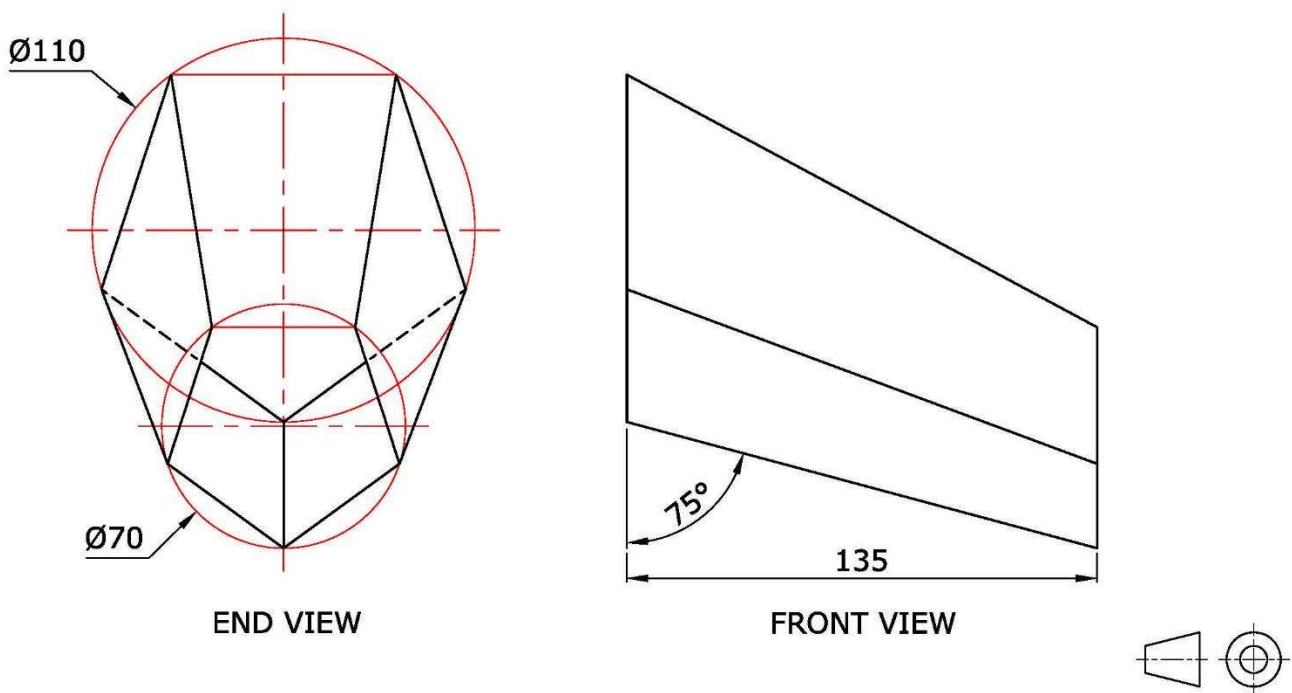

Figure 4b
- a) Construct, full size, the wall mounted face as a regular pentagon inscribed in the 110 mm diameter circle shown in Figure 4b and complete the end and front views of the truncated oblique pyramid. (4)
- b) Using an appropriate method, determine the necessary true lengths of the edges required. (3)
- c) Draw a half surface development of the spout. Show the joint on the shortest length. (6)